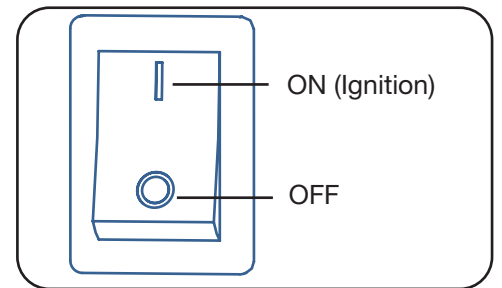

Figure 3-3
2. If equipped with an emergency stop control switch, make sure that the emergency stop control is set to the ON position, represented by the solid line, while attempting to start the engine. See Figure 3-3.
To stop the running engine using the emergency stop control, move the switch to the OFF position, represented by the circle. See Figure 3-3.